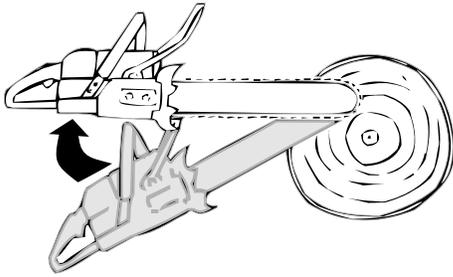

Figure 14: Starting at the top of the log
1. Commence cut with the lower section of the guide bar nose until the depth of the kerf is about the same as the width of the bar. (Fig. 14)